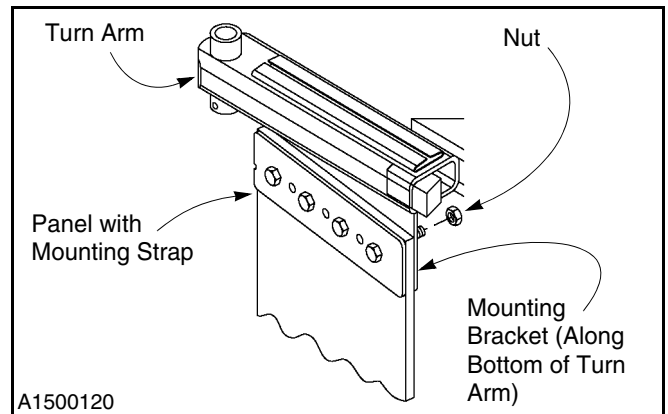

Figure 48
2. Remove the panel to be replaced from the turn-arm assembly. The panel is held in place with a strap that is bolted to a mounting bracket along the bottom of the turn arm. Save all hardware for later use. (See Figure 48.)
- Using the saved hardware, attach the new panel to the turn arm. Center the mounting strap on the panel, as indicated in Figure 48, for your particular type of door. The position of the panel within the door determines on which side of the panel the strap is mounted.
When hanging the panel on the turn arm, make sure the strap is centered along the length of the mounting bracket. Later, if necessary, the panel (strap) can be repositioned along the bracket. (See Figure 48.)